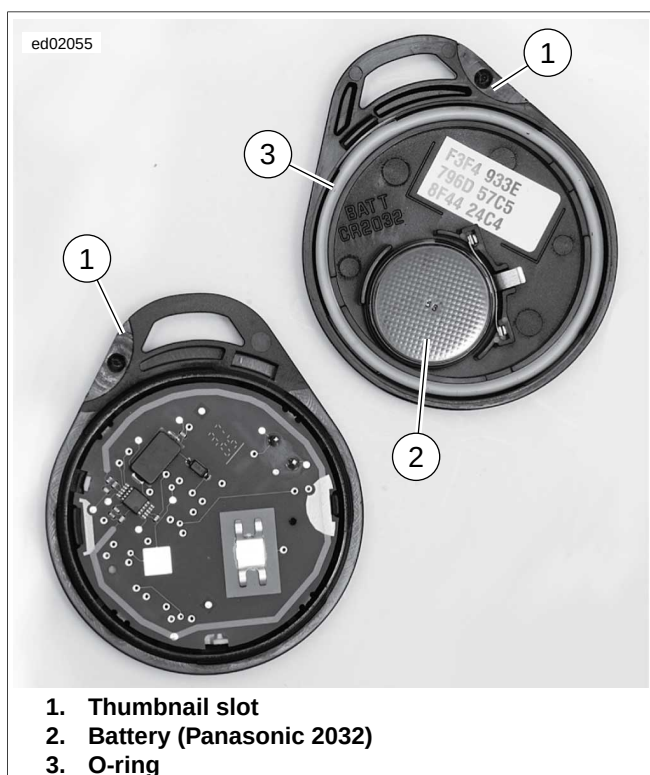

Figure 3-33. Open Fob: HFSM
1. See Figure 3-33. Open the fob case.
- a. Place a thin blade in the thumbnail slot (1) between the 2 halves of the case.
2. Replace battery (2).
3. With O-ring (3) in place, align case halves and snap case halves together.